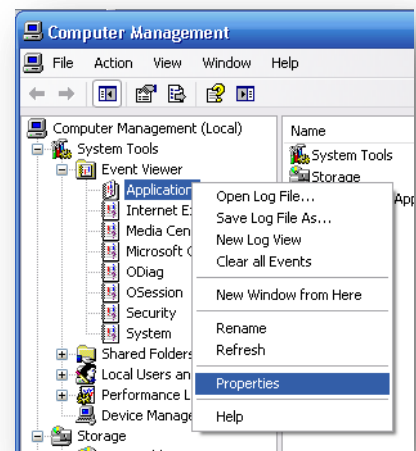

Figure 3-1 – Bring up Application Event Log properties
2. Right-click on the *Application* node and click *Properties...* (see FIGURE 3-1)